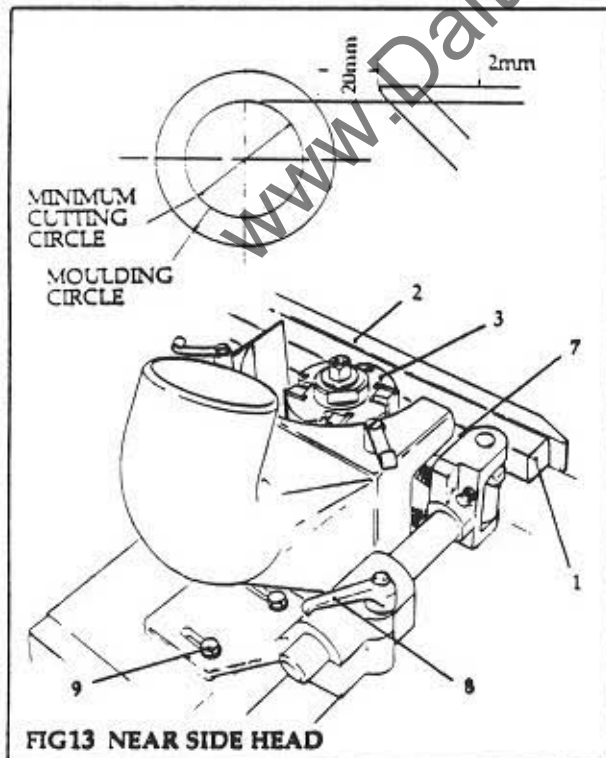
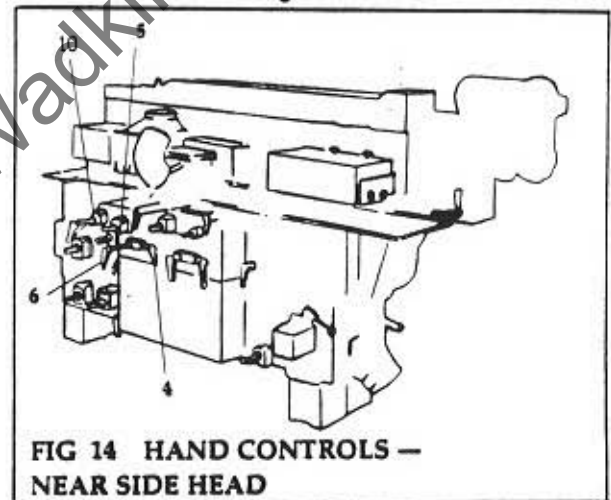

FIG 13 NEAR SIDE HEAD
FIG 14 HAND CONTROLS — NEAR SIDE HEAD
Near Side Head (Fig 13, Fig 14)
- (5) Set the axial position (height) of the cutterblock (3) as follows:-
- a. Release the locking handle (4) and the spindle clamp (6).
- b. Rotate the handscrew (10) clockwise to raise or anticlockwise to lower the cutterblock.
- c. Refasten handle (4) and clamp (6)
- (6) The chipbreaker adjustment is as follows:-
- b. Release locking handle (8).
- c. Adjust the chipbreaker (7) so that it clears the smallest cutting circle by approximately 2mm (Fig 13).
- d. Refasten locking handle (8)
- e. Loosen bolts (9) and adjust the chipbreaker (7) to suit the cutterblock diameter so that it clears the cutterblock by 20mm (Fig 13).
- f. Retighten bolts (9)
- (7) Set the outfeed adjustable guard on the dust hood to suit the cutterblock i.e. approx 5mm less than minimum cutting circle.